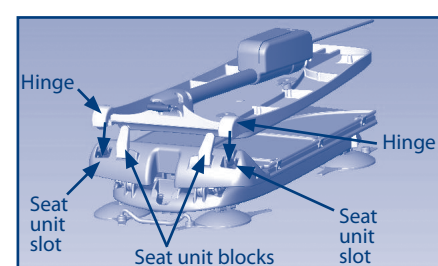

Figure 9
- vii) Place the backrest assembly face down onto the seat unit, whilst aligning the hinges at the bottom of the backrest with the slots located at the rear of the seat unit (see fig 9).
- viii) Ensure the backrest hinges locate into BOTH slots, with the bottom edge of the backrest positioned in front of the two blocks (see fig 9).